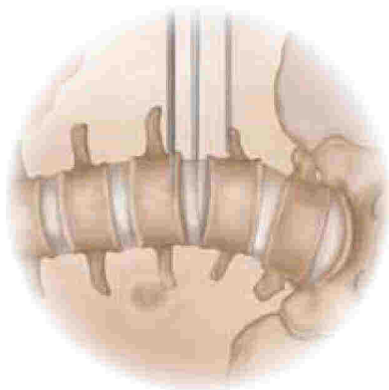
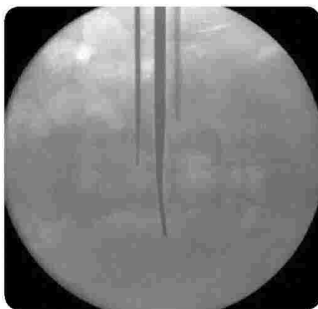

Figure 30
Figure 31
**Step 6** A large Cobb is passed along both end plates to the contralateral annulus (**Figure 30**). A mallet is then used to gently release both the superior and inferior aspects of the contralateral annulus (**Figure 31**). This step is critical to ensure that appropriate distraction and coronal alignment can be achieved.